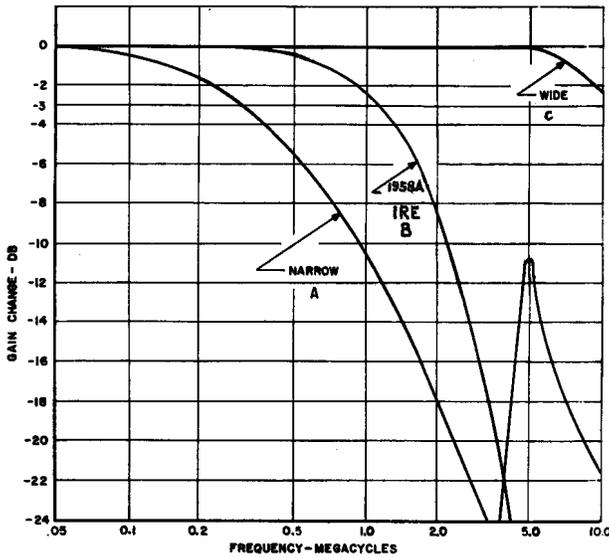

Fig. 7 - KS-15512, List 5 Oscilloscope Video Frequency Response
4.08 The plate load of electron tube V1 (this description applies to V2 also) on the WIDE position of switch S4 consists of resistor R29 in series with R28 and capacitor C15B in parallel. R28 and C15B provide low-frequency compensation. This combination provides for maximum bandwidth, as shown in Fig. 7.
4.09 To provide a transmission characteristic with a 1958A IRE roll-off capacitors C79, C80 and inductor L13 are connected across the plate load when switch S4 is operated to the →1958A IRE position. This characteristic is also shown in Fig. 7.
4.10 To use the oscilloscope in conjunction with a J64047A Transmission Measuring System, the bandwidth is modified as shown in Fig. 7, by operating switch S4 to NARROW. This connects capacitor C20 and inductor L3 in series across the plate load. L3 and C20 are tuned to series resonance at 3.579 mc to prevent this burst frequency from interfering with the transmission measurement.
5.07 Set the BANDWIDTH switch to the proper position. The WIDE band is used for multiburst testing and waveform analysis requiring the widest bandwidth. The 1958A IRE bandwidth follows the curve data of the 1958A IRE specifications and is used when making signal level measurements. The NARROW bandwidth is employed when the oscilloscope is operated in conjunction with the J64047A Transmission Measuring Set, and for measurements requiring high sensitivity (see Fig. 7 for specific frequency response curves).